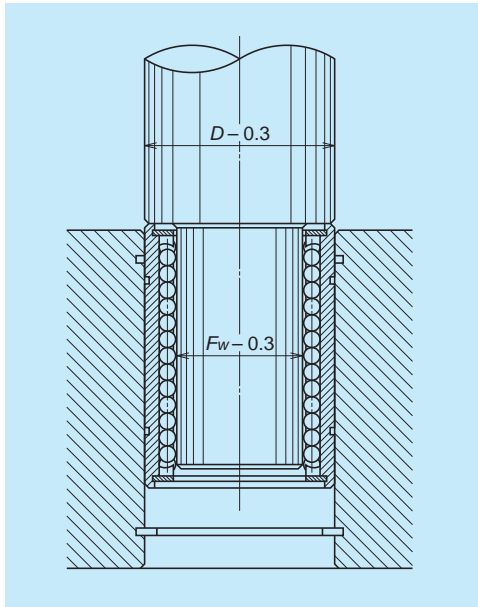

Fig. 10 Tool to install a linear rolling bushing
- Ⓑ To install linear rolling bushing, use a tool (Fig. 10) and squeeze it in, or use a holder and lightly pound it.